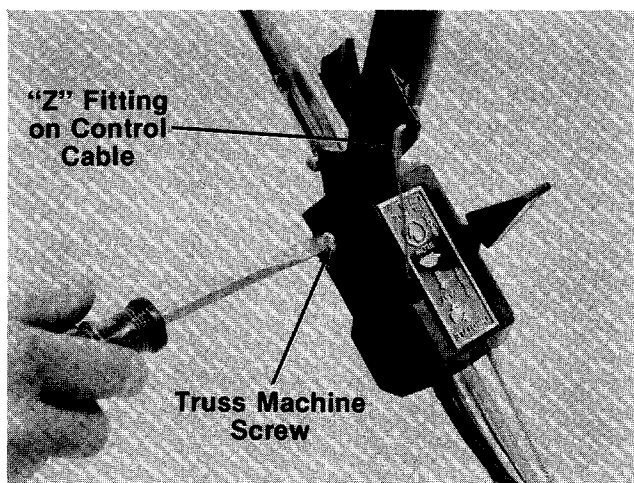

FIGURE 27.
5. Remove one truss machine screw on the inside of the control housing as shown in figure 27.